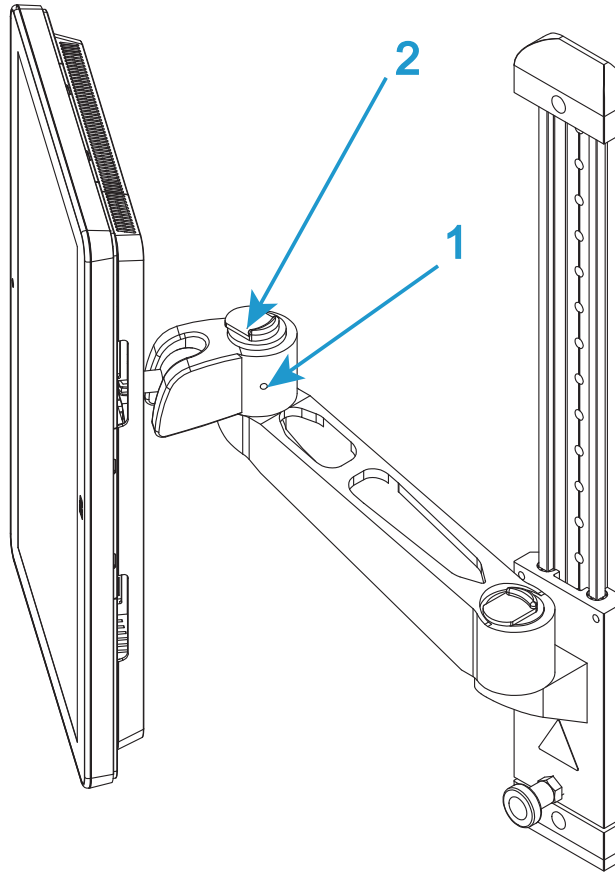
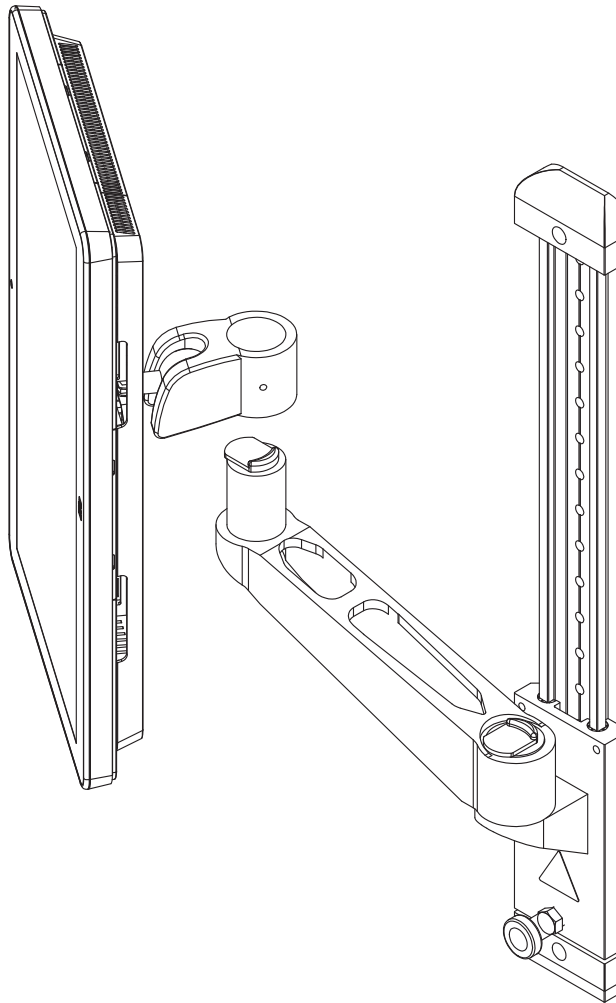

Figure 7. Mounting arm
Figure 8. Lift to remove
3. If necessary, loosen the set screw on the side of the “elbow” on the mounting arm (1 in Figure 7 on page 46).
4. Operate the release mechanism on top of the “elbow” (2 in Figure 7 on page 46) and lift the Bluehill® Operator Dashboard clear of the mounting arm (Figure 8 on page 47).